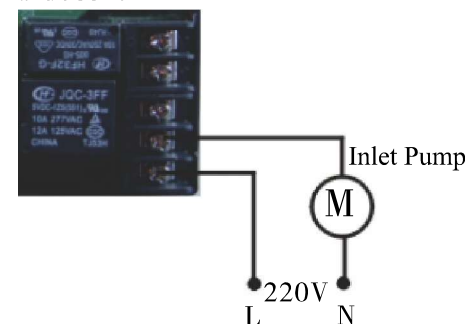

Figure3-14 Wiring of Inlet Pump
G. Inlet pump and soft water pump connecting as Figure 3-14/15/16/17 (Only for 93620 and 93520)